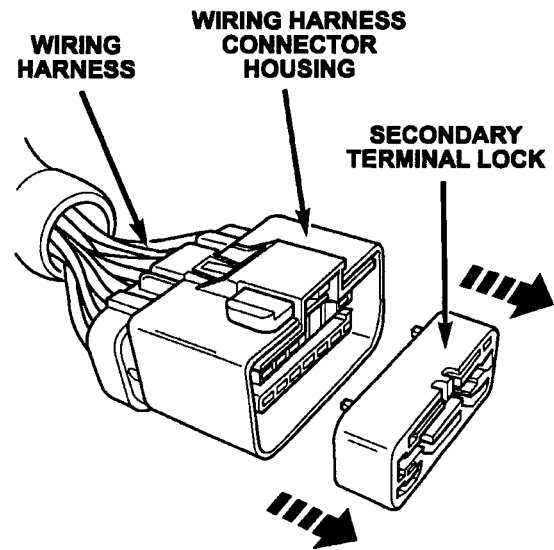

Figure 8
1. Remove the secondary terminal lock from the original ABS control module wiring harness connector housing (Figure 8).
- 5. After all of the terminals have been transferred or replaced, install the blue secondary terminal lock into the ABS control module wiring harness connector (Figure 8).